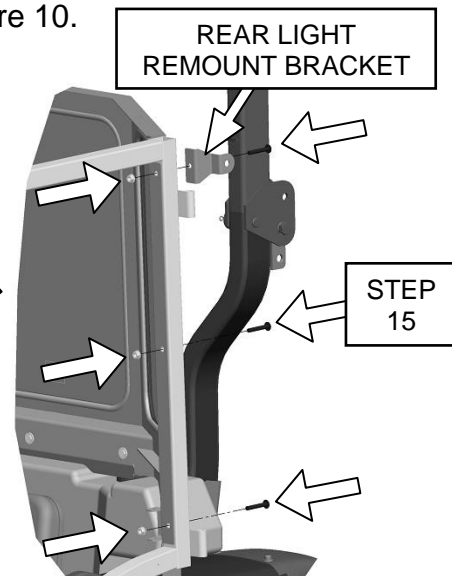

Figure 10
15. Secure rear of LH side frame and (1) rear light remount bracket to rear panel assembly using (3) $\frac{5}{16}$ " x 2.00" long button head bolts and (3) $\frac{5}{16}$ " flange nuts. Repeat step to mount RH side frame. See figure 10.